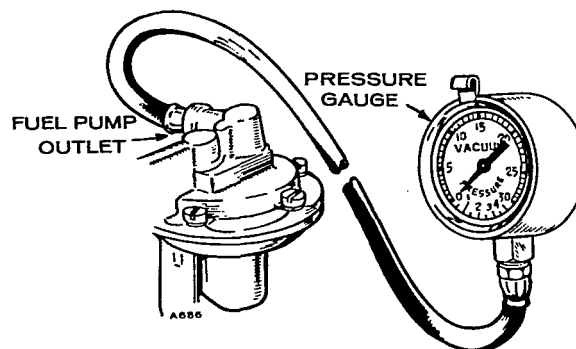

FIGURE 16. TESTING FUEL PUMP PRESSURE
1. Disconnect pump outlet line and install the pressure gauge (Figure 16).
1. Remove pump inlet and outlet (Figure 16). Remove two capscrews holding pump to engine and lift it off.